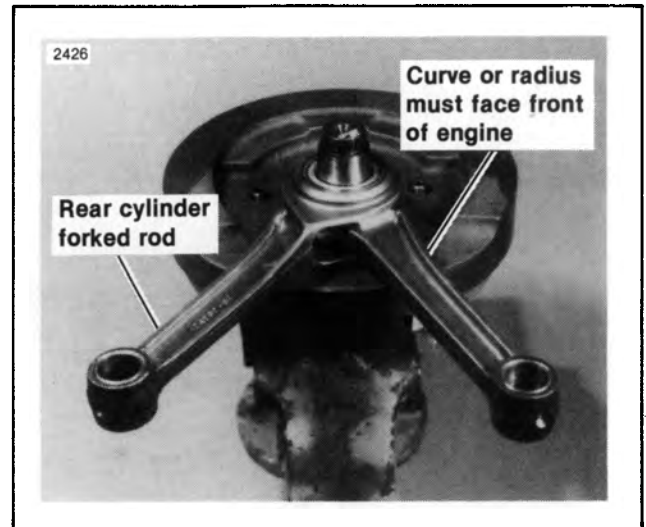

Figure 3-57. Connecting Rod Location
2. On early 1985 flywheels, assemble the sprocket shaft (13) and left flywheel half (2) and apply two drops of Loctite RETAINING COMPOUND to the threads and two more drops to the face of the nut (12).
3. Tighten the nut (12) to 290 - 320 ft-lbs torque.
4. Assemble the pinion shaft (7) and right flywheel half (6) in a similar manner. Tighten the nut (5) to 140 - 170 ft-lbs torque.
8. See Figure 3-57. Install the rods and bearings on the crankpin using a thin film of petroleum jelly to retain the rollers. Never use a stiff, high temperature grease on the roller bearings. The forked rod is for the rear cylinder and the offset reinforcement on the front rod faces forward. If the front rod is turned 180° it will interfere with the rear rod.